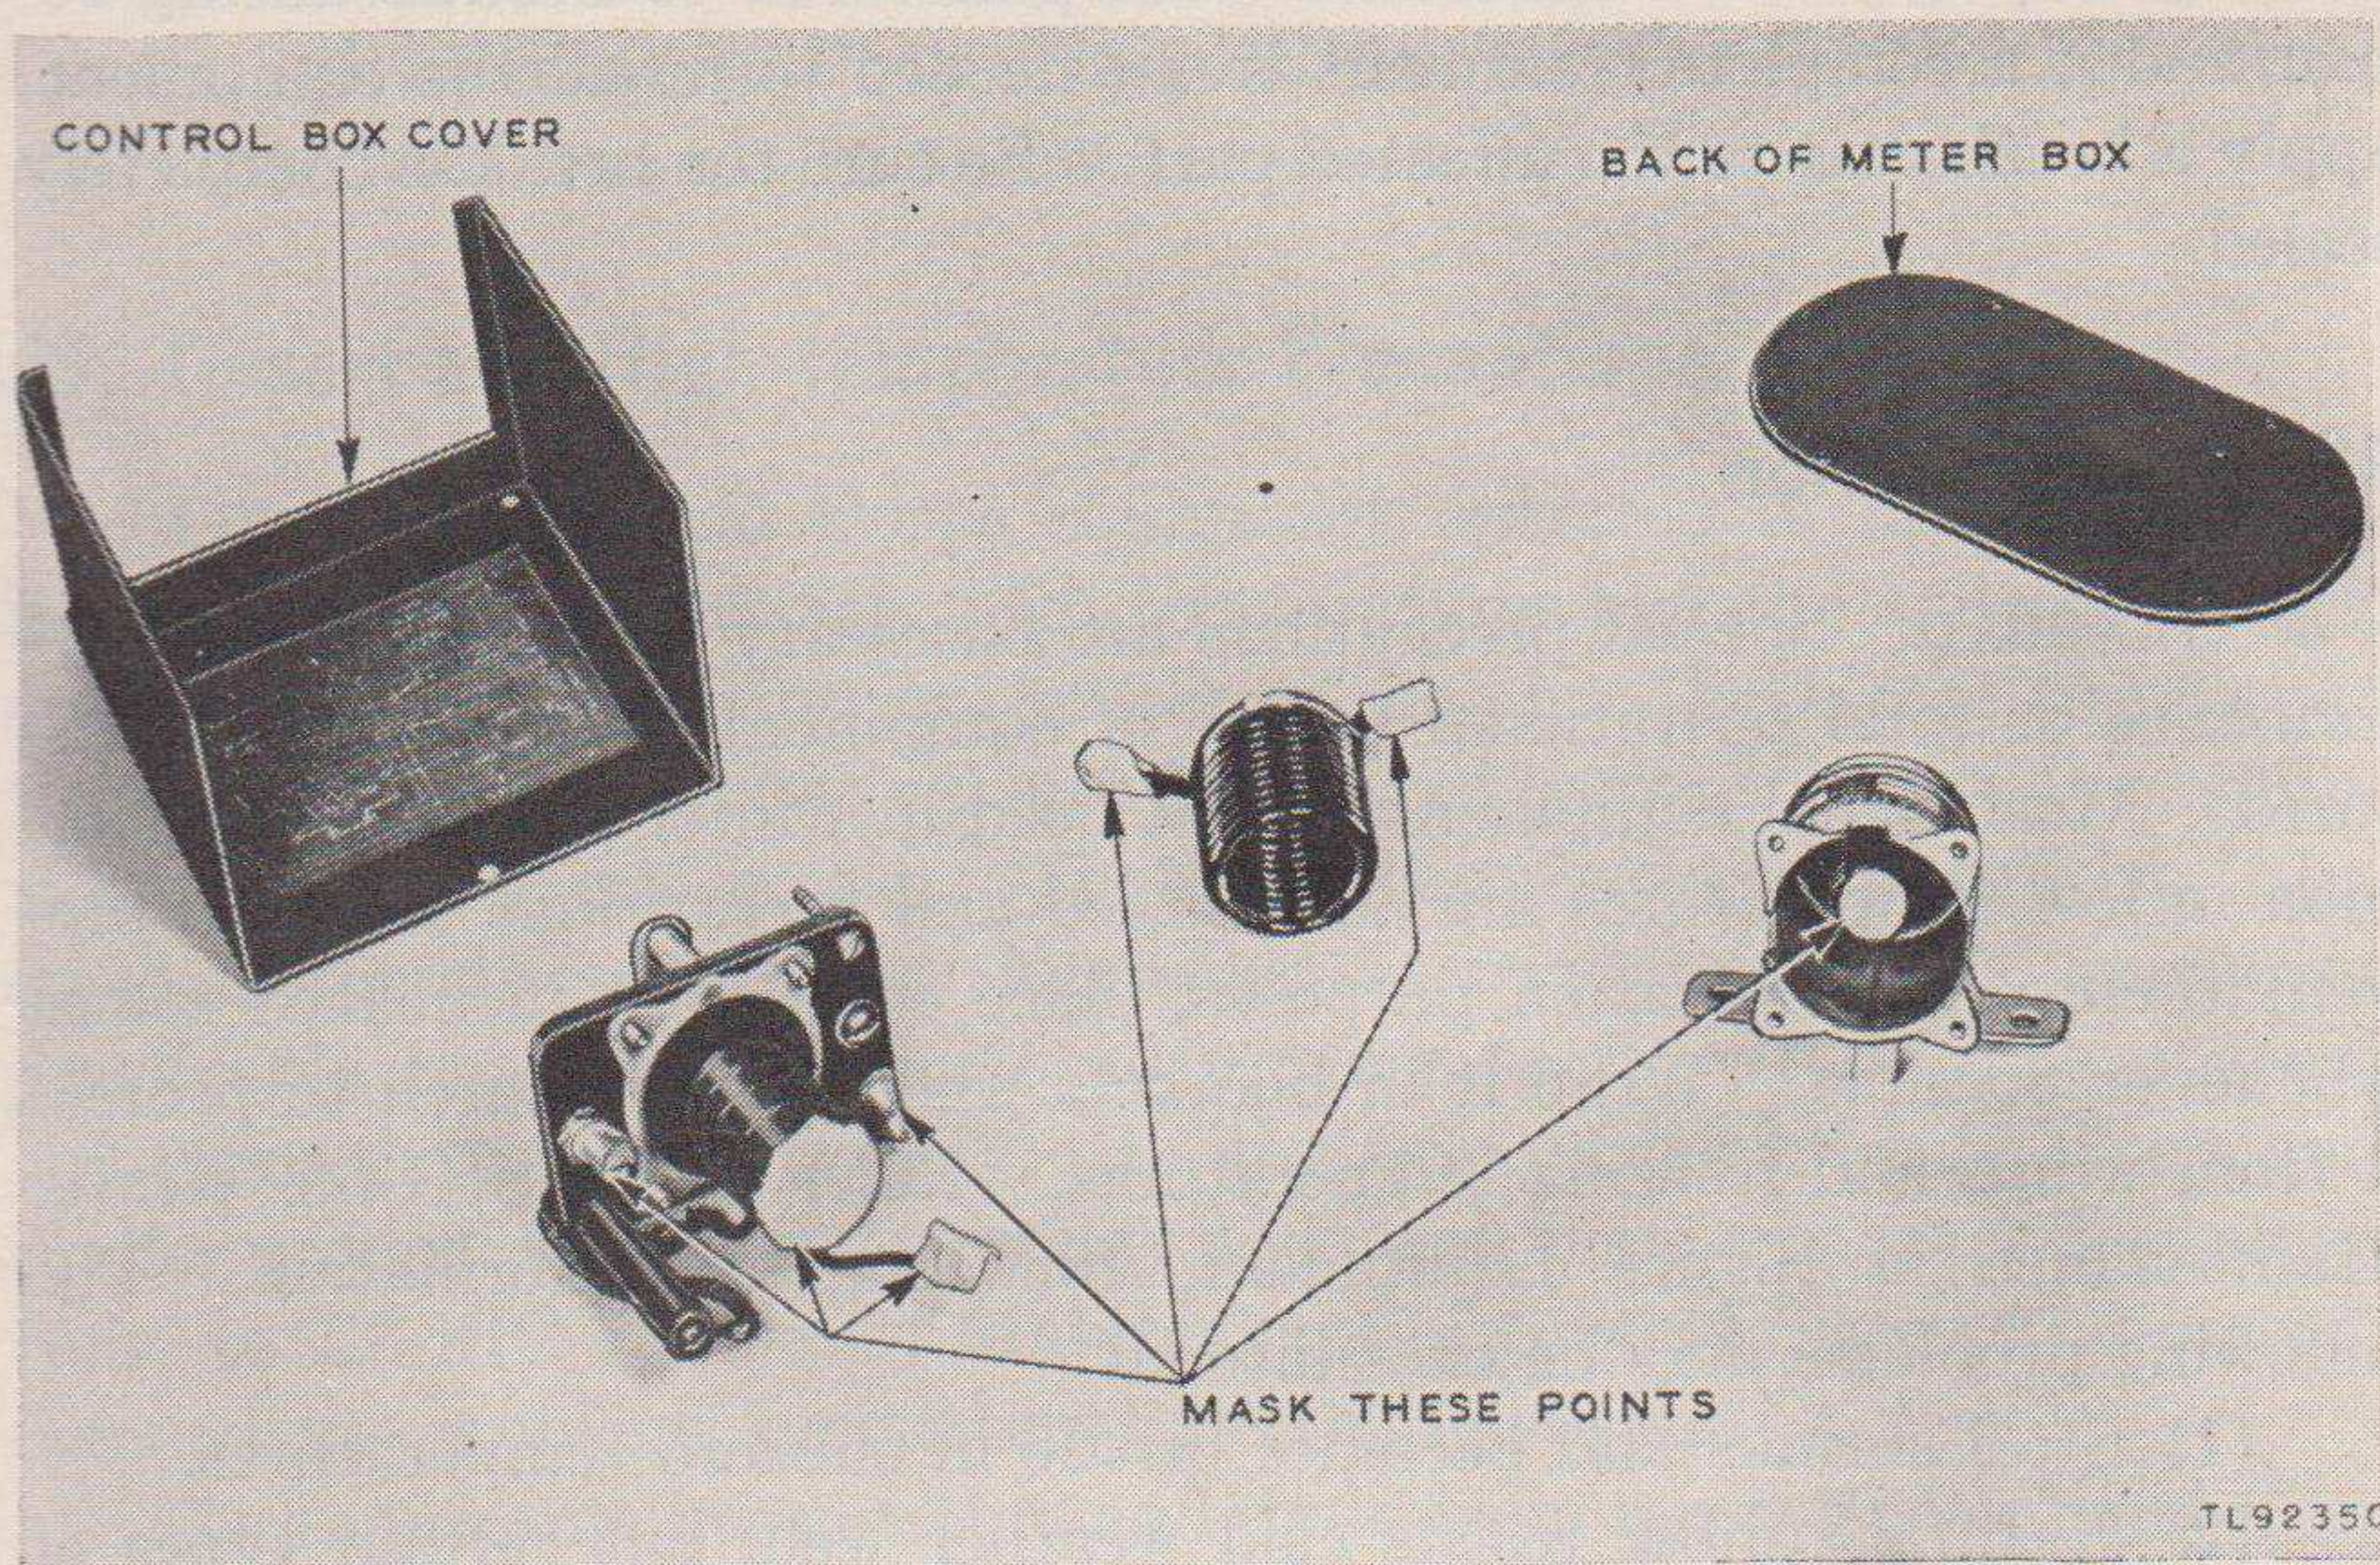

Figure 8. Masking of control box parts.
- (3) *Cleaning.* Clean all dirt, dust, rust, and fungus from the equipment to be processed. Clean all oil and grease from the surface to be varnished.
- (4) *Masking.*
- Mask the armature guide in the relay case (fig. 8).
- Mask the opening in the end of the solenoid coil, as show in figure 8.
- Mask the binding posts and loose terminal lugs on under side of relay. Make sure all parts indicated in figure 8 have been masked.
- (5) *Drying.* Dry under infrared lamps for 2 to 3 hours at 160° F.
- (6) *Varnishing.*